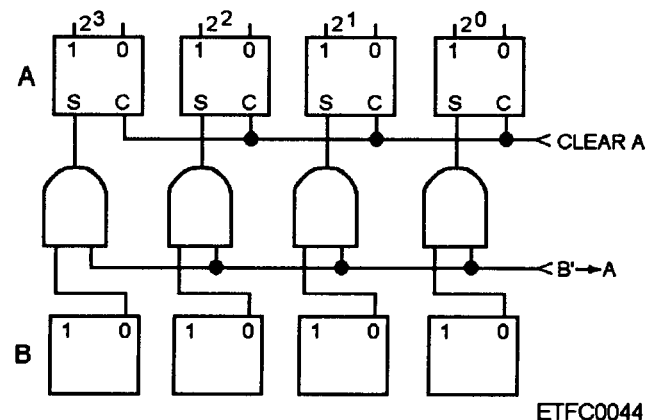

Figure 4-27.—Example of a single-line parallel complement transfer.
- **Complement**—Similar to the single-line parallel transfer except that the receiving register's set side will receive the clear side of the sending register's flip-flops; thus the data has been complemented after the transfer is complete. Refer to figure 4-27.